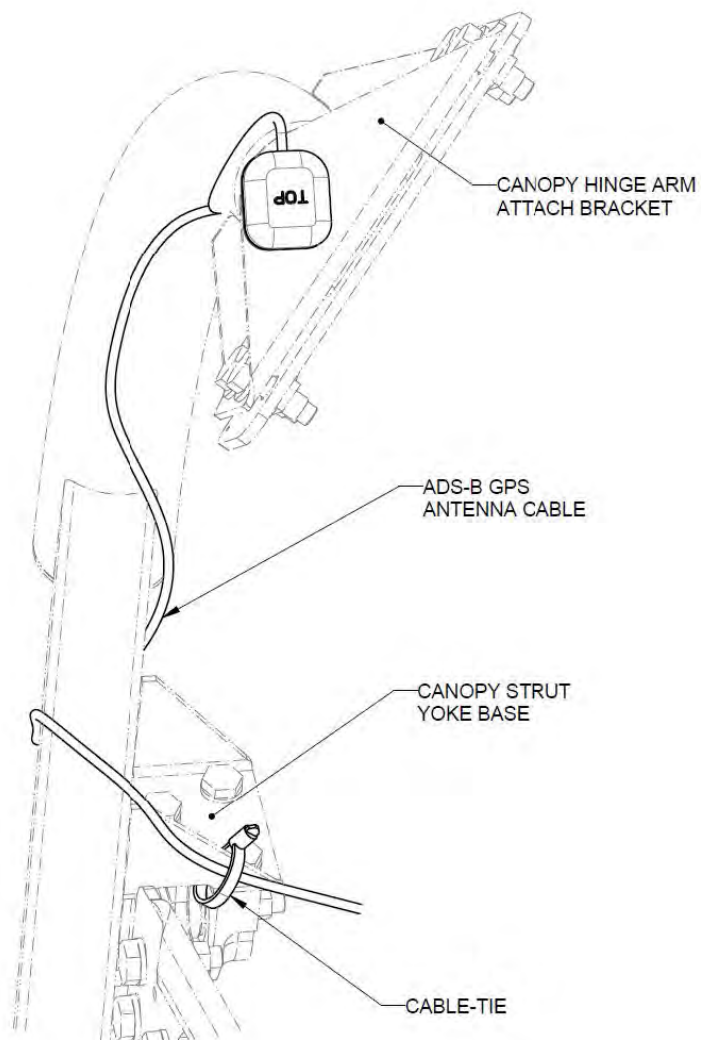

FIGURE 13-28
4. Secure the cable with the CABLE-TIE around the Canopy Strut Yoke Base as shown in Figure 13-28.